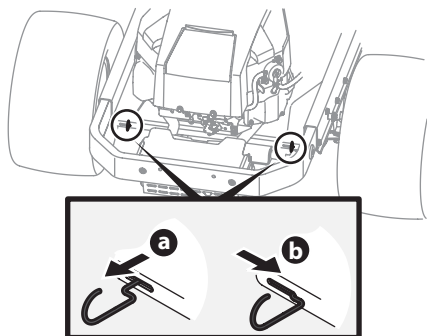

Figure 2-1
4. Engage the transmission bypass rods on each side of the tractor; then carefully roll the tractor off the shipping pallet. The transmission bypass rods (one for each, RH and LH transmission) are located on the rear of the tractor, just inside each rear wheel. Engage the bypass rods by pulling each one out and to the right then letting it return to lock it into place. See Figure 2-1.
5. Disengage the bypass rods after rolling the tractor off the pallet. See Figure 2-1.